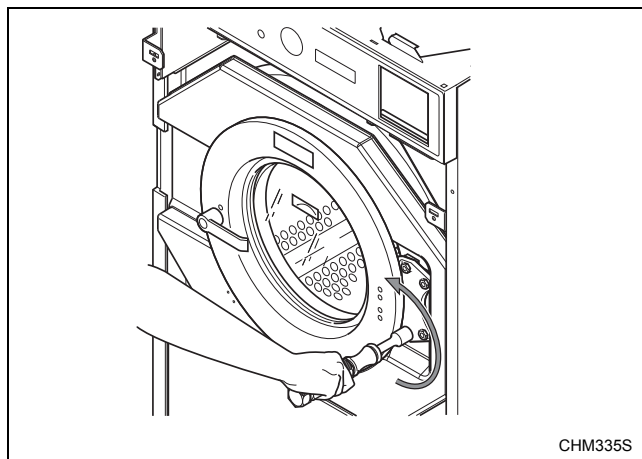

Figure 54
4. Reposition the handle to allow the locking pin to move properly. Begin by loosening the door hinge nuts with the door closed and the door handle latched. Refer to *Figure 54*.